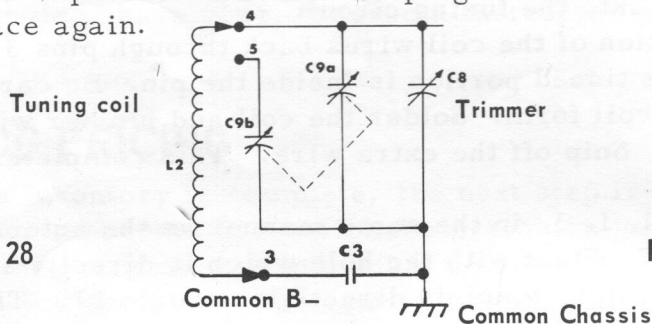
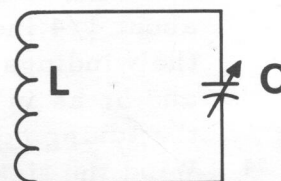

Figure 28
Figure 29
- 3 The tuning circuit is made up of the tuning coil, L-2, and the capacitors, C-9a, C-9b and C-8. See Figure 28. This circuit can be simplified to resemble that circuit used in a crystal tuner radio. See Figure 29. Different stations may be selected by either changing the number of turns on the coil or by changing the capacitance of the capacitor. On the 511 radio, the number of turns on the tuning coil may be changed by simply using different plug-in coils. Each plug-in coil will have a range of frequencies which may be selected with the tuning capacitor. This range of frequencies or band is determined by the number of turns placed on the tuning coil, L-2. See Figure 30. On the 511 radio, the variable section of the tuning capacitor is connected to the common B-. These two points are joined through the .05 capacitor, C-3, to form a complete tuned circuit. See Figure 28. To show the effect of capacitor, C-3, un-solder and remove one end of the capacitor, C-3, from the terminal strip. Place an antenna on the antenna post and then plug the radio into the wall outlet. After sufficient warm-up, notice that it is not possible to select stations. The stronger stations are received from one end of the tuning dial to the other. With the radio turned on, temporarily connect the .05 capacitor, C-3, back into the circuit. Notice it is now possible to tune in separate stations. Un-plug the radio and solder the capacitor, C-3, in place again.